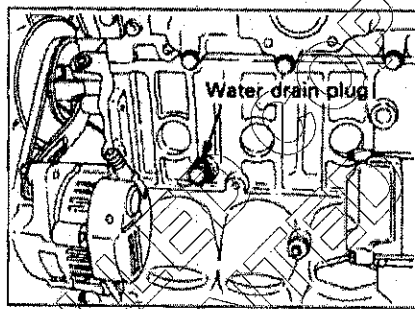

Fig 18 Water drain plug
- (1) Remove the radiator cap. Open the drain cock at the radiator lower part to drain the coolant from the radiator.
- (2) Drain away the coolant from the engine by loosening the water drain plug (Fig 18) at the rear of alternator on the left side of cylinder body.